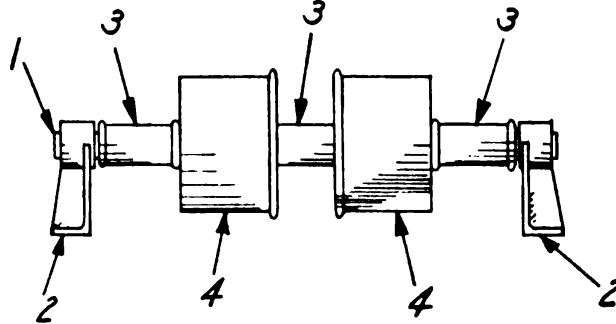

Figure 488
- (c) Remove bolts from brackets (2) figure 488.
- (e) Remove set screws which hold shaft (1) in brackets (2).
- (f) Brackets (2) and shaft (1) may now be removed freeing flanged rollers (4) and spacers (3).